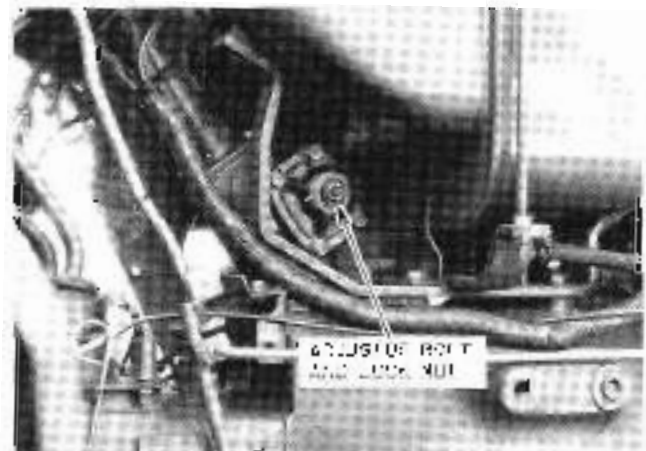

Figure 67 - Steering Wheel Free Play Adjustment
2. Loosen the adjuster located on the rear side of the steering gear box and turn the adjuster screw, see Figure 67. Turning the screw clockwise will increase the free play while turning it counter-clockwise will decrease the steering wheel free play.